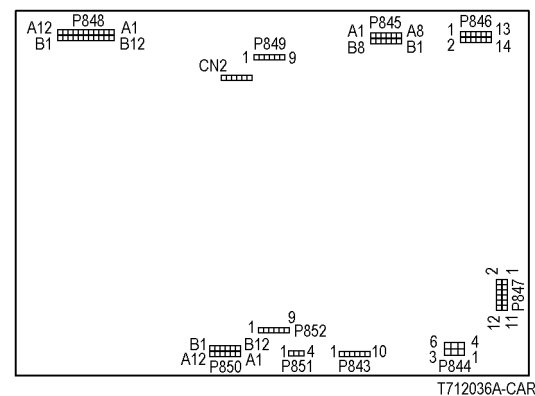

Figure 3 Finisher PWB
- If the problem persists, replace the Finisher PWB (PL 17.13) (Figure 3).